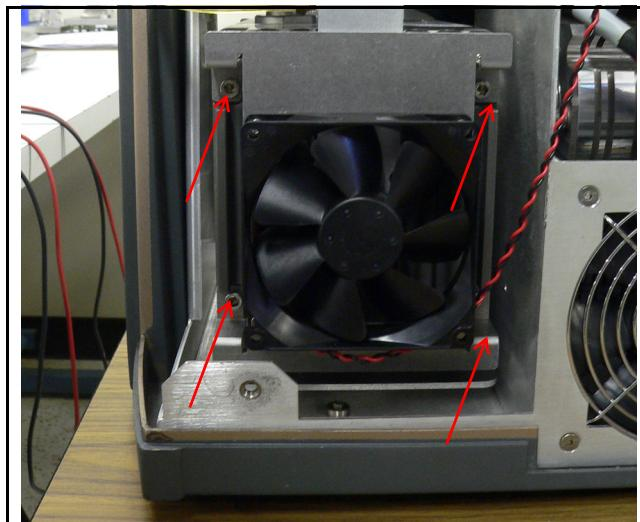

Figure 5: Fan Assembly Mounts
8. Remove the fan assembly bracket and lay it aside (Figure 5: Fan Assembly Mounts).